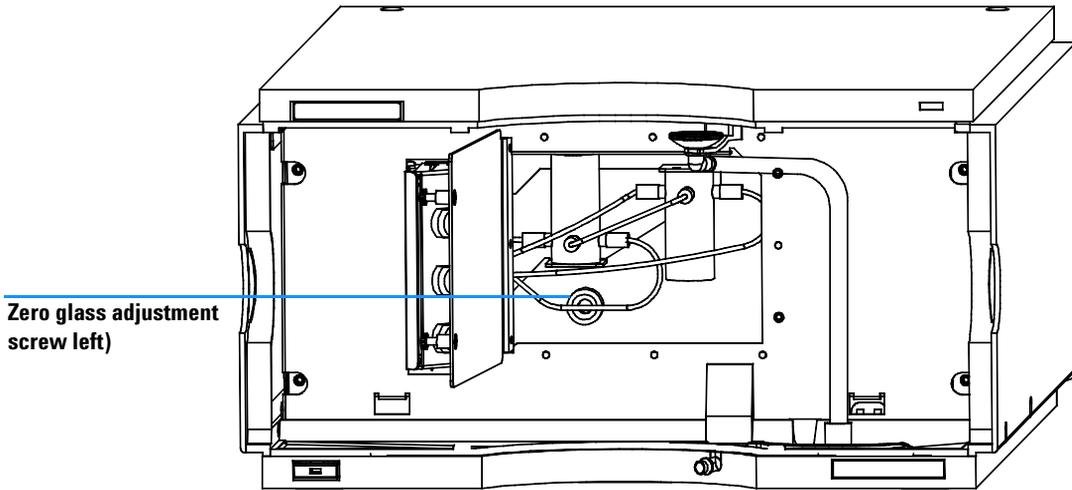

Figure 21 Turning the zero glass adjustment screw
- 1 While monitoring the optical balance use the flat-headed screwdriver to turn the zero glass adjustment screw slowly (see Figure 21).